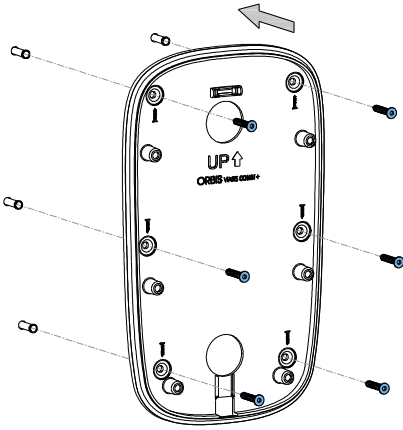

Fig. 1
- Bolt the installation plate to the wall. **Fig. 1**